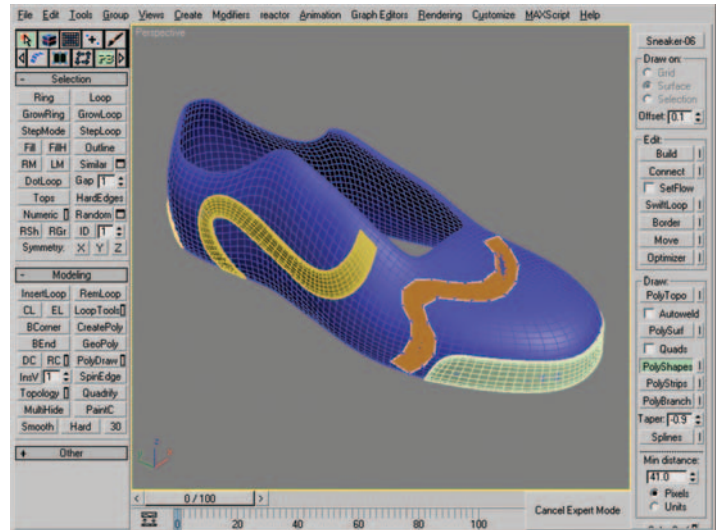

Figure 12.41 New shape created with the PolyShapes tool (mesh shown in orange). Note that this shape is one large multi-sided polygon.
3. Draw a curved shape as seen in Figure 12.41. The PolyShapes tool creates a multi-sided polygon in the shape you draw. It is not Quad based; however, there is a tool to fix this.